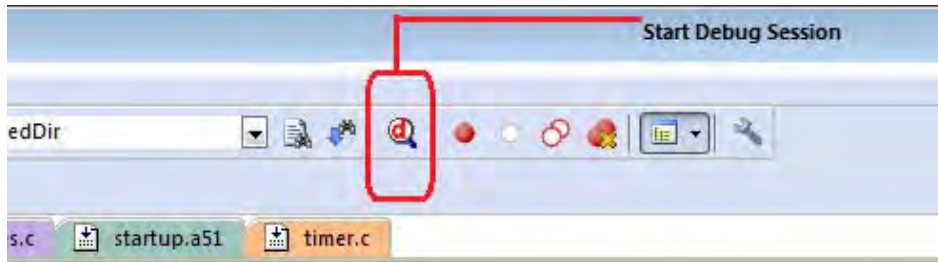
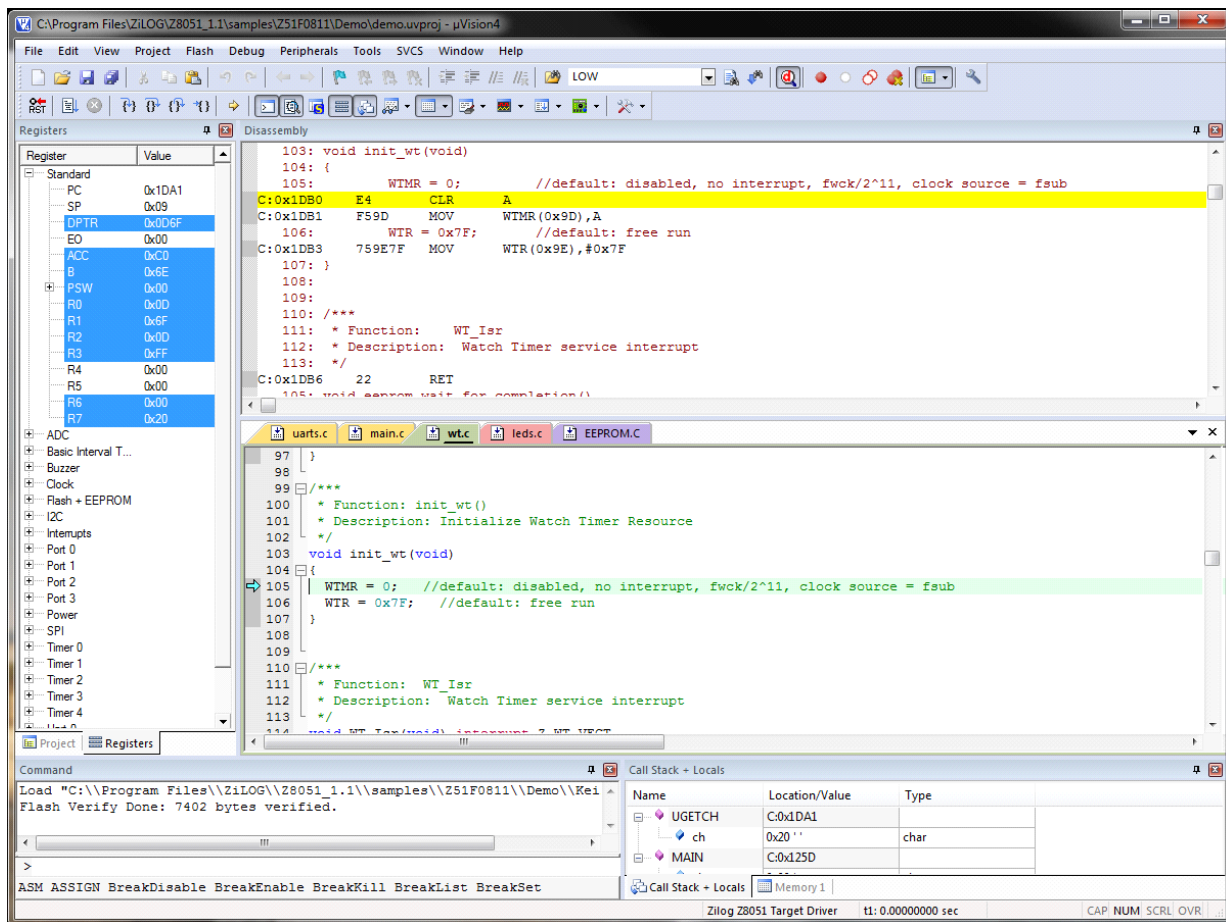

Figure 29. Beginning a Debug Session
Figure 30. A Default Debug Session
13. Start your debugging session by clicking the **Start/Stop Debug Session** icon, as indicated in Figure 29. A default Windows configuration of the debug session is shown in Figure 30.